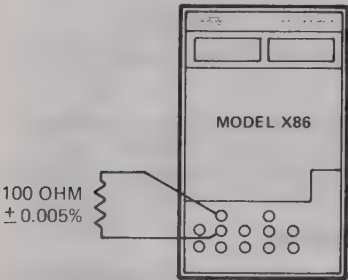

Figure 6-3: Ohms Input Calibration
- a) Connect the Model X86 and the precision 100-ohm resistor as shown in Figure 6-3. Connect the resistor directly to the OHM binding posts to eliminate errors caused by test lead wire.